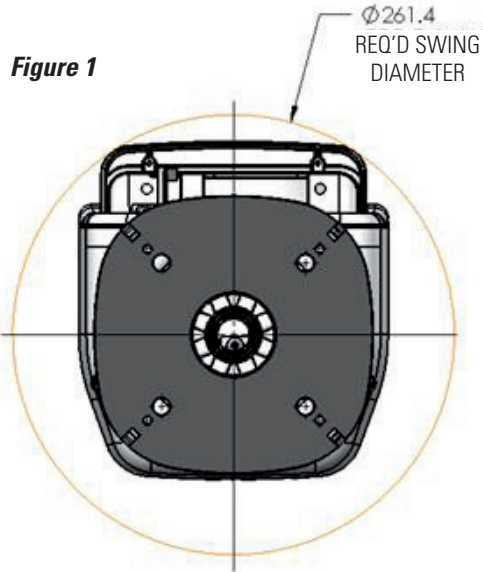

Figure 1- Spotlight - Bottom View Looking Up - Dimensions in mm
1. Determine the location for the light on your vehicle. This should be a flat surface. The small arrow on the base indicates the normal forward direction of the light. The light will rotate to the left of this arrow 185 degrees and to the right 185 degrees. The lamp will tilt down 45 degrees and tilt up 90 degrees. The location should take into consideration this range of motion to maximize usability. Keep in mind the swing diameter is 261.4 mm (10.3 inches) from the center of the mounting plate – see Figure 1. This allows for clearance as the light is rotating.